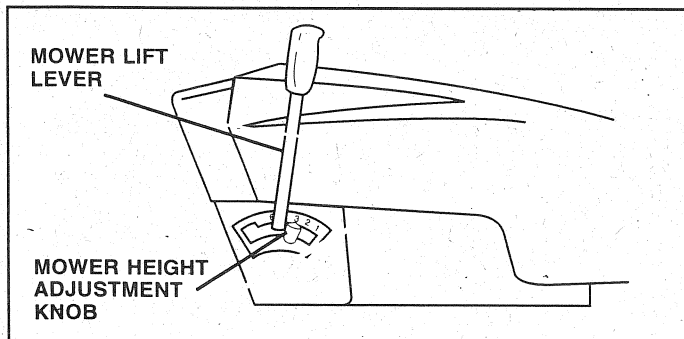
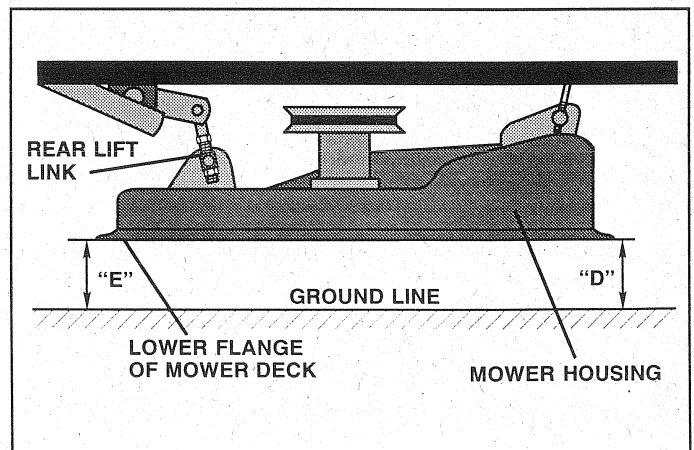

FIG. 19
FIG. 22
## TO LEVEL MOWER HOUSING (See Figs. 19 - Fig. 22)
- Place mower height adjustment knob in position "3" (See Fig. 19).